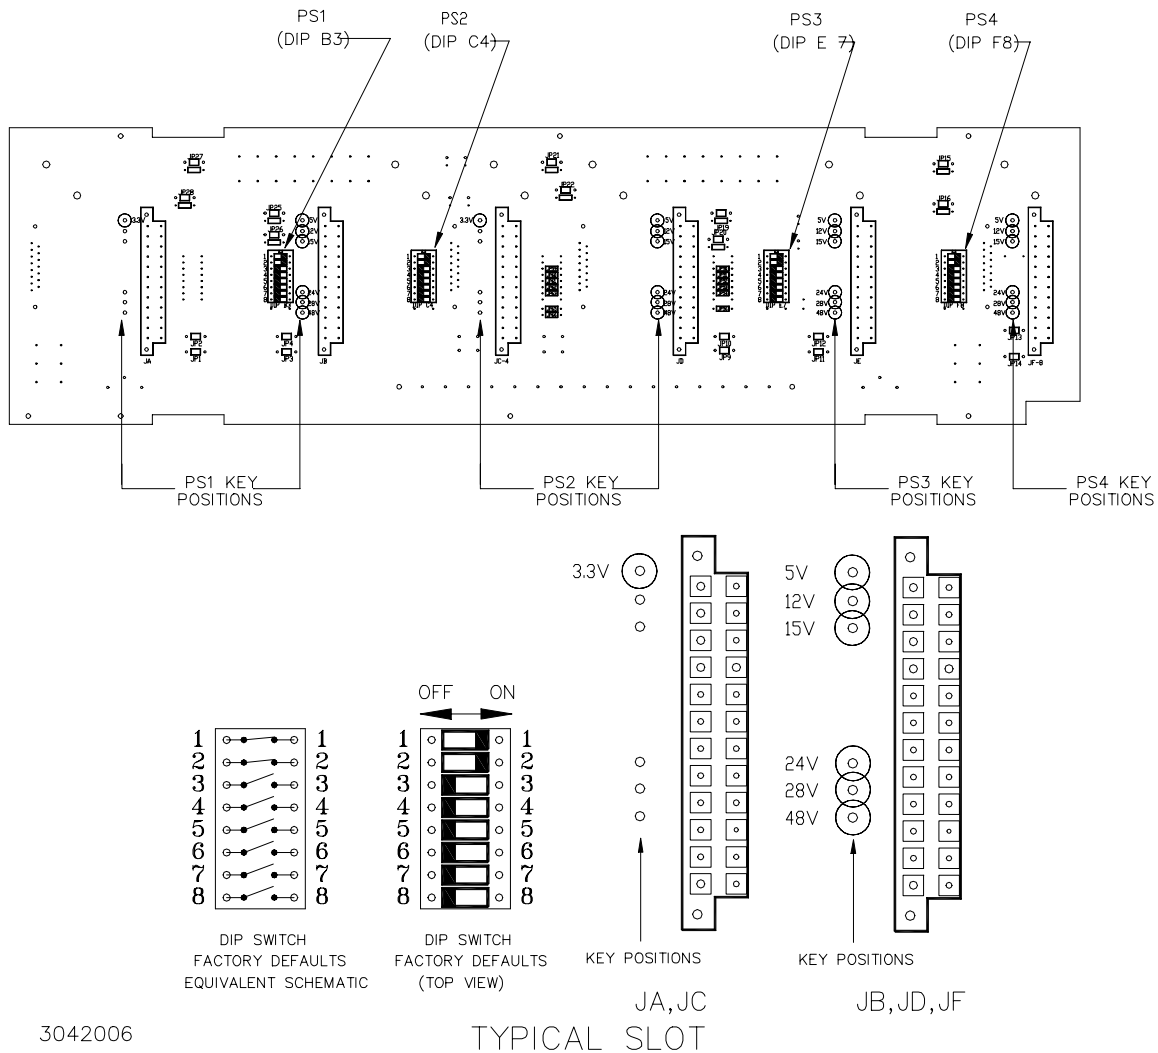
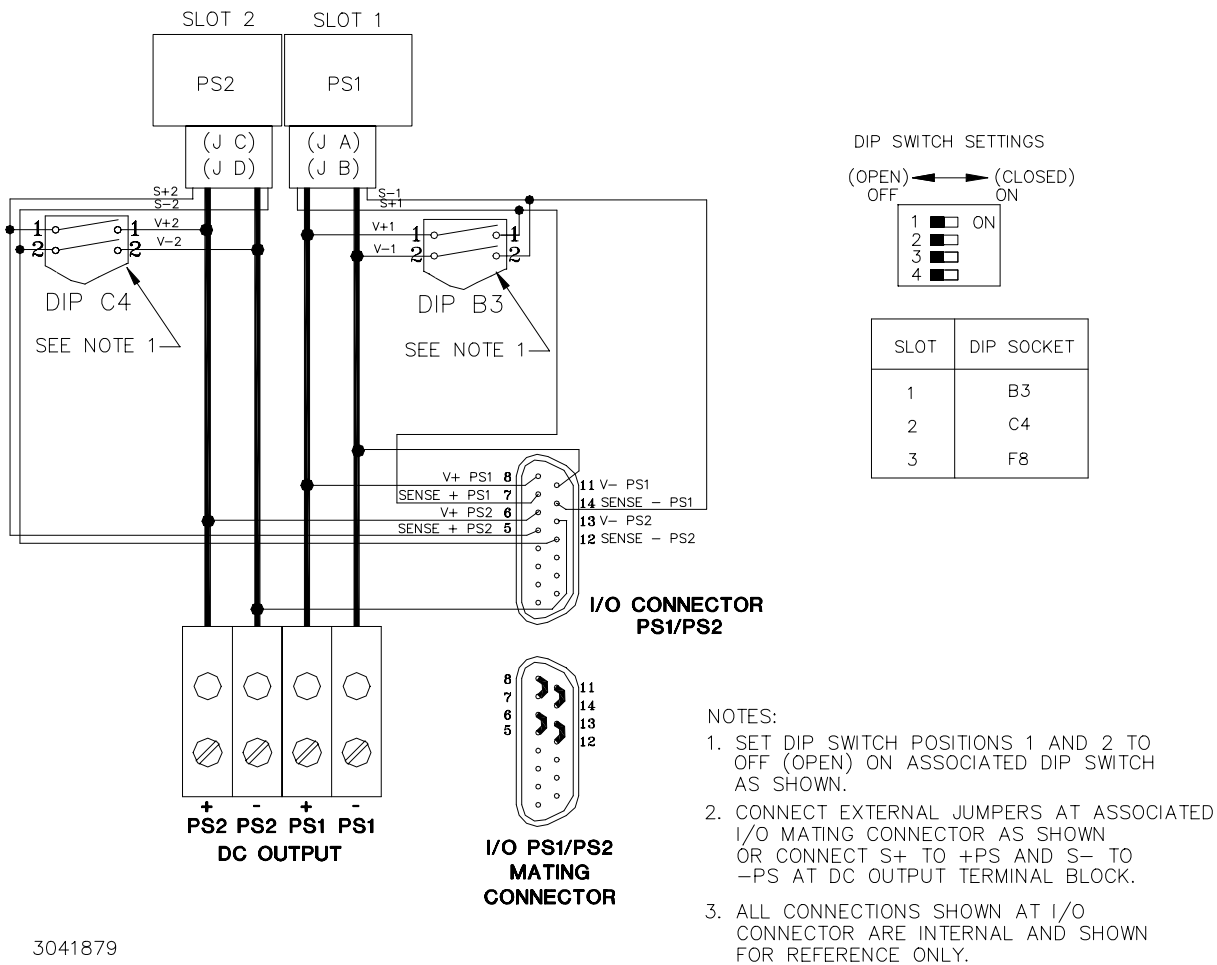
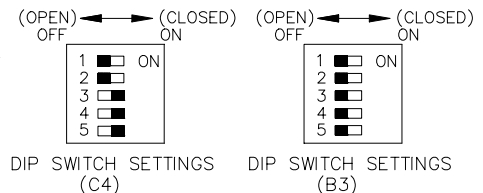

FIGURE 2-1. BACKPLATE ASSEMBLY, INTERIOR VIEW
FIGURE 2-3. INDEPENDENT OPERATION, LOCAL SENSING FOR PS1 AND PS2 USING EXTERNAL JUMPERS AT I/O MATING CONNECTOR, SIMPLIFIED DIAGRAM
FIGURE 2-5. PARALLEL OUTPUTS USING INTERNAL DIP SWITCHES TO PARALLEL SENSE LINES AND CURRENT SHARE, PS1 AND PS2 (TYPICAL), SIMPLIFIED DIAGRAM
Series RA 19-(X)B rack adapters incorporate a keying mechanism to prevent accidental insertion of the incorrect model HSF power supply into any position. The HSF power supplies are keyed by voltage at the factory. The keying mechanism will prevent engagement of any of the HSF power supply's connectors with those on the rack adapter's back plate unless the key and keyway align. The user can configure each power supply position of the rack adapter for the desired voltage in the desired position (see Figure 2-1). First gain access to the interior components (PAR.2.3.1), then position the key as required (PAR. 2.3.2).
- Remove seven screws (three at the top and four at the bottom) securing the back plate to the chassis and remove the back plate to gain access to the interior components (see Figure 2-1)
To establish the keying of any position, simply insert the key pin from the front and secure with mounting nut at the back plate using two ¼" nutdrivers or deep sockets. RA 19-4B backplate assembly keying is identical to the HSF module keying identified in Figure 2-1 and in the HSF operator's manual. **DO NOT ALTER THE KEYING AT THE POWER SUPPLY.**
Configuring slots of the rack adapter for independent, parallel or series operation is accomplished either internally by means of DIP switches associated with each slot (see Figure 2-1), or externally by connecting the appropriate pins of the associated I/O mating connector. DIP switch functions are explained in Table 2-2. Refer to PAR. 2.3.1 to gain access to the DIP switches.
The rack adapter slots are preconfigured at the factory for local sensing using internal DIP switches. If a slot has been configured for other than local sensing using DIP switches and it is necessary to reconfigure it for local sensing, simply set positions 1 and 2 of the DIP switch associated with that slot to ON (closed). External sensing connections must be removed. When set to ON (closed) DIP switch position 1 connects (V+) to (S+) and position 2 connects (V-) to (S-). See Figure 2-1 for DIP switch locations. Figure 2-2 illustrates local sensing of PS1 and PS2 by setting positions 1 and 2 of internal DIP switches B3 and C4 to ON (closed); positions 3 and 4 must be set to OFF (open). Position 5 (current share) must be set to OFF and positions 6, 7, and 8 (alarms) can be configured per PAR. 2.4.4.
External local sensing is accomplished by connecting (V+) to (S+) and (V-) to (S-). This can be done at either the mating I/O connector supplied (see Table 2-1) or the DC OUTPUT terminal block. See Figure 2-1 for DIP socket locations. Figure 1-3 illustrates I/O connector pin assignments. Figure 2-3 illustrates local sensing of PS1 and PS2 using external jumpers connected to the I/O mating connector.
The power leads must be connected in parallel externally (see PAR. 2.9.4.1). DC Output V(+) and V(-) must be connected in parallel at the DC OUTPUT terminal block (see Figures 2-5 through 2-9).
To connect the current share lines locate the applicable DIP switches: C4 for HSF 350W units and F8 for HSF 50W, 100W or 150W units (see Figure 2-1) and set position 3, 4, 5 to ON (closed). The example illustrated in Figure 2-5 shows two 350W units (slot 1 and slot 2) connected in parallel using internal DIP switches to configure the current share bus, enabled via position 5 of DIP switch C4 for slots 1/2 or F8 for slots 3/4.
For both local and remote sensing Positions 1 and 2 of *each* DIP switch in the parallel configuration must be set to OFF (open); refer to Figure 2-1 to identify the DIP switch associated with a corresponding slot.
1. For each supply in parallel set DIP switch positions 1 and 2 to OFF (open) (see Figure 2-1).
2. For each DIP switch between parallel-connected slots (C4 and F8), set DIP switch positions 3 and 4 to ON (closed) to connect sense leads in parallel (see Figure 2-1).
2. For each DIP switch between parallel-connected slots (C4 and F8), set DIP switch positions 3 and 4 to OFF (open) (sense leads will be connected in parallel in steps 7 and 8) (see Figure 2-1).